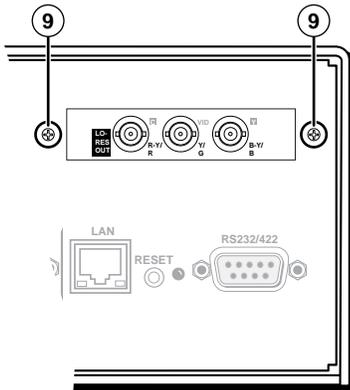

Figure 7-11 — Secure the output board to the rear panel
- Secure the output board to the back panel with the two screws (9) removed in step 2 (figure 7-11).